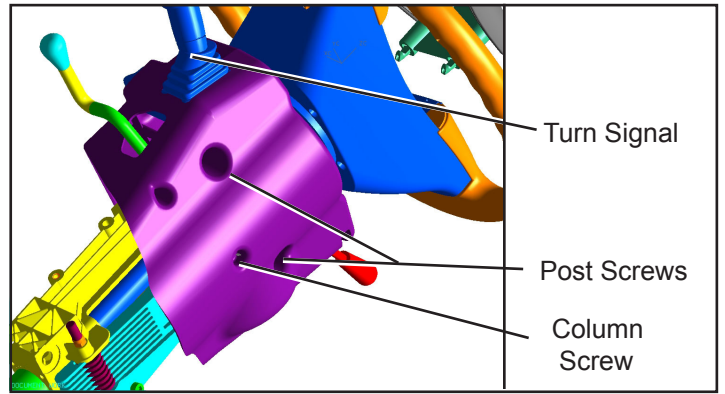

Figure 2 Removing Column and Post Screws
2. As shown in Figure 2, remove the steering column covers by removing the post screws and one column screw with a Torx® driver. Separate the bottom and top cover halves. A wiring harness may be attached to the bottom cover half and will prevent the cover from being removed from the steering column area. Complete removal of this cover is not necessary or recommended to facilitate the installation of this kit.
3. With a long handle Phillips head screwdriver, remove and discard the two turn signal screws (2) that secure the turn signal housing (1) to the steering column.
4. Disconnect the electrical connector located on the back side of the turn signal housing by gently squeezing the tab of the wiring harness connector while pulling it away from the turn signal. Discard the turn signal (1).